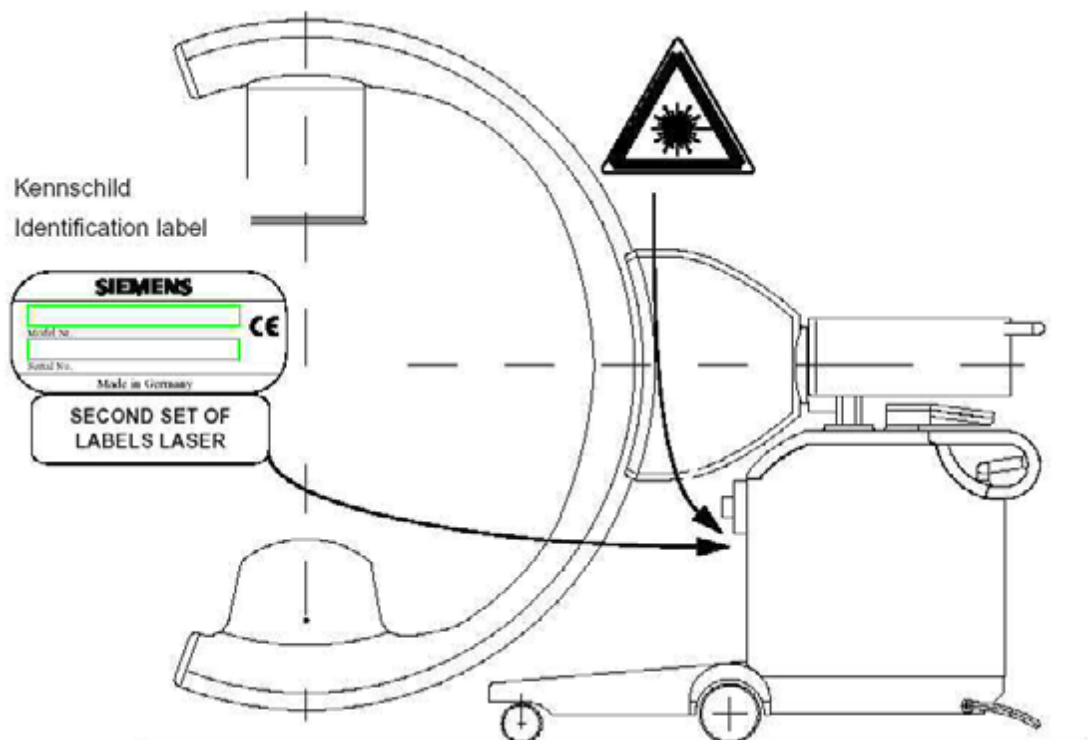

Fig. 8: Affixing the identification labels for GB and other countries
- Check warning label according to (Fig. 8 / p. 17).